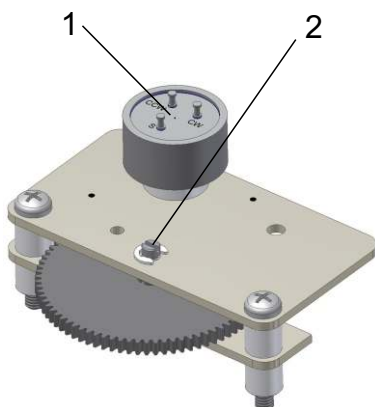
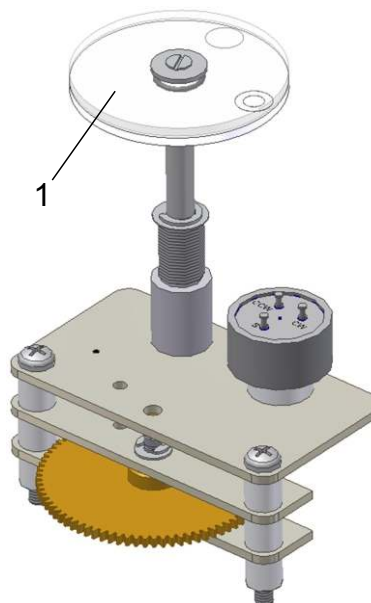
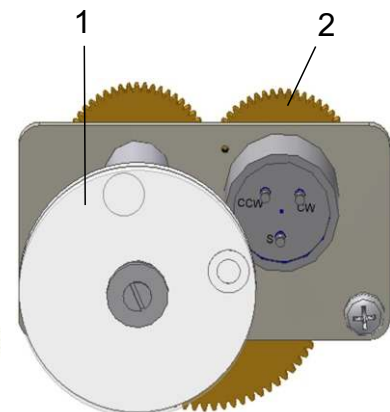
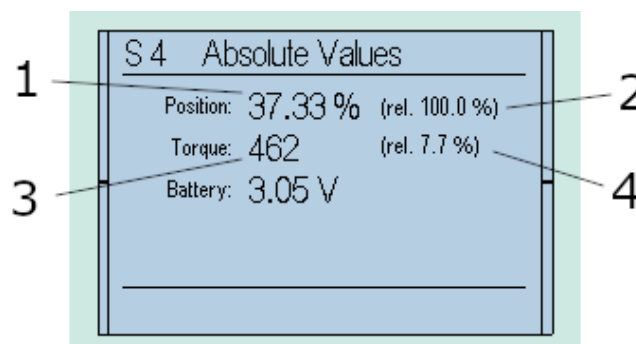

Figure 20: 1... potentiometer for position sensing, 2... slotted shaft for turning the potentiometer
Figure 21: 1... mechanical position indicator
Figure 22: 1... mechanical position indicator, 2... wheel turning the potentiometer
Figure 23: 1... absolute value of the position unit, 3... value for the torque unit (is factory adjusted)
- For units without mechanical position indicator turn the slotted shaft (see Figure 20) with a screwdriver carefully until the below value is reached (see Figure 23)
- For units with mechanical position indicator turn the wheel (see Figure 21 and Figure 22) until the below value is reached (see Figure 23)